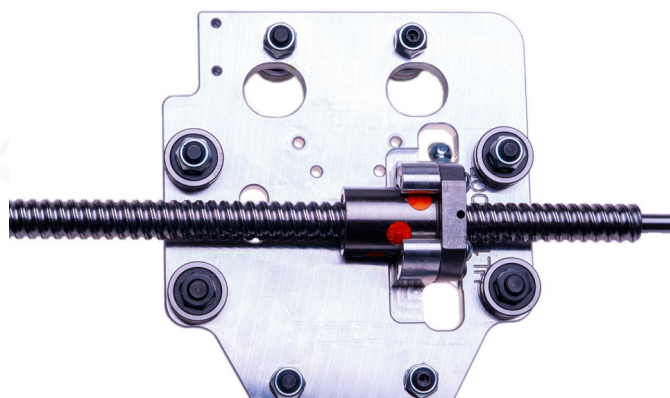

Fig. 13: Sled with the X-spindle installed
- Use the flat-head screws **G3** to screw the two pre-assembled table sides to the face plate **5**, as shown in Fig. 13. Do not tighten the screws.